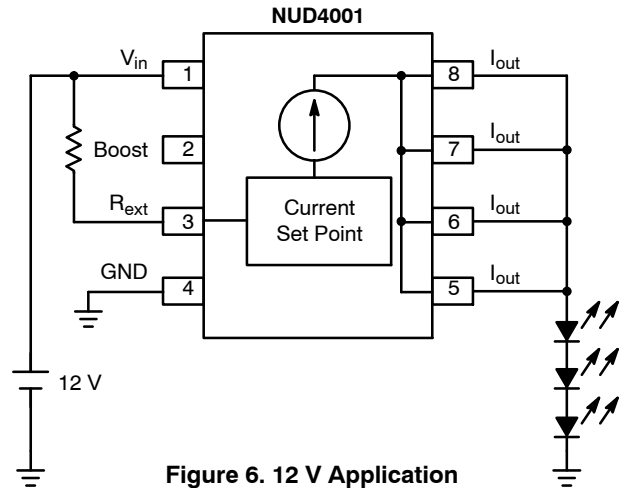

Figure 6. 12 V Application (Series LED's Array)
- a. Per example in Figure 6,  $V_{in} = 12 \text{ V}$
- a. Per example in Figure 6,  $V_{LED} = 3.5 \text{ V} + 3.5 \text{ V} + 3.5 \text{ V} = 10.5 \text{ V}$